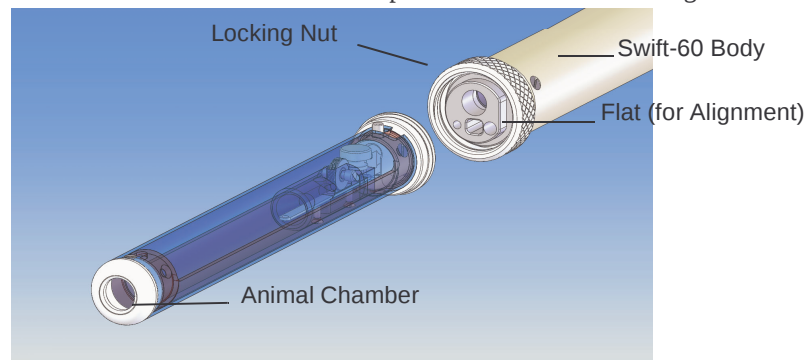

Figure 1. Animal Chamber
1. Hold the chamber (Figure 1) in one hand with the chamber facing away from the operator and the threaded end closest to the operator to remove an existing chamber.